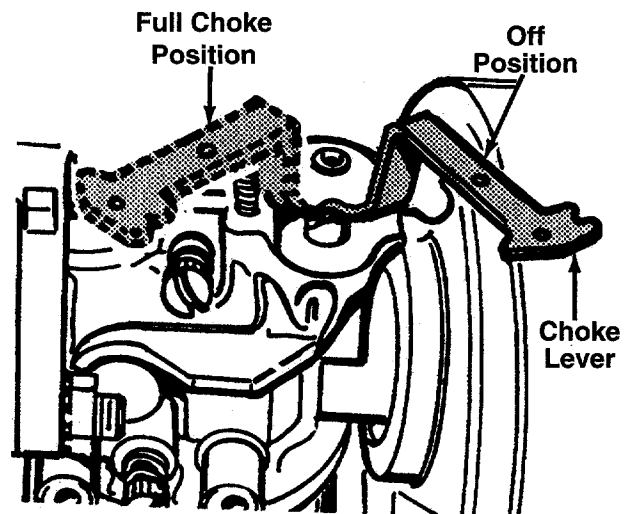

FIGURE 14.
**NOTE:** If engine does not fire after three attempts, move choke lever halfway between CHOKE and OFF position and try again. See figure 14.